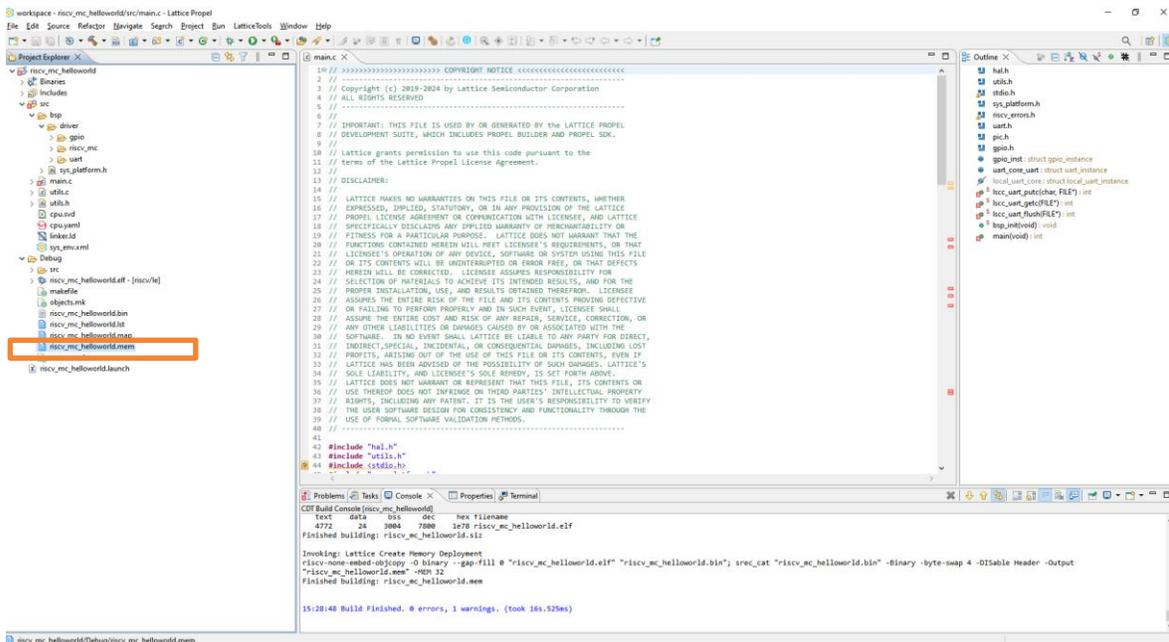
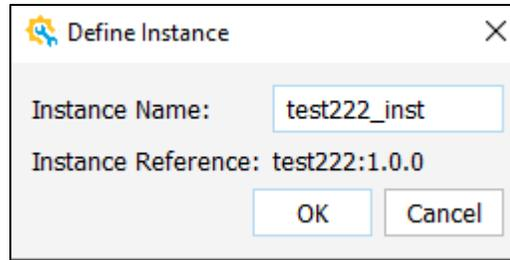
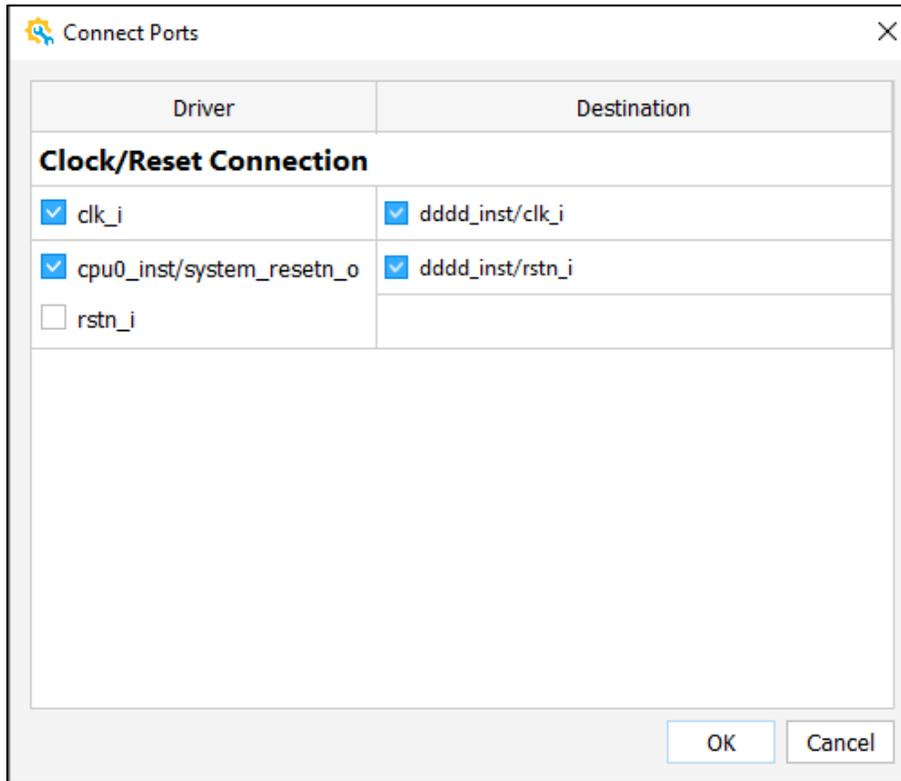

Figure 2.94. Mem File for Simulation
Figure 2.105. Define Instance Dialog
Figure 2.106. Connect Ports Dialog
6. In Propel SDK, right click on Project and then click **Build Project** (Figure 2.106). A mem file is generated in **Debug** folder (Figure 2.94).
When this auto-connect function is enabled, when an instance is instantiated (see Generating and Instantiating IP/Module section for instantiate an IP), after clicking **OK** in **Define Instance** dialog (Figure 2.105), an addition dialog box pops up with some suggested Clock/Reset connection for the ports on this IP (Figure 2.106). Check/Uncheck to make the desired connections.